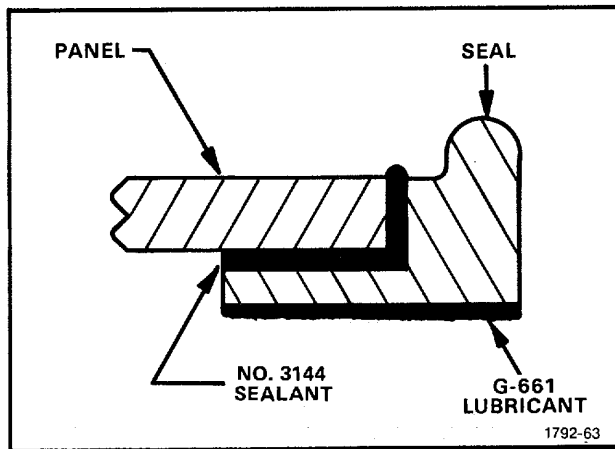

Figure 5-9. Detail of Plug-In Compartment seal.
9. Bonding of Plug-in Compartment seal to Front Panel (see Fig. 5-9)